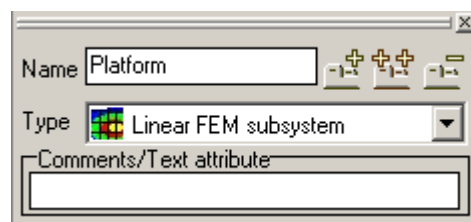

Figure 3.2.
3. Set **Name** to **Platform** (Fig. 3.2).